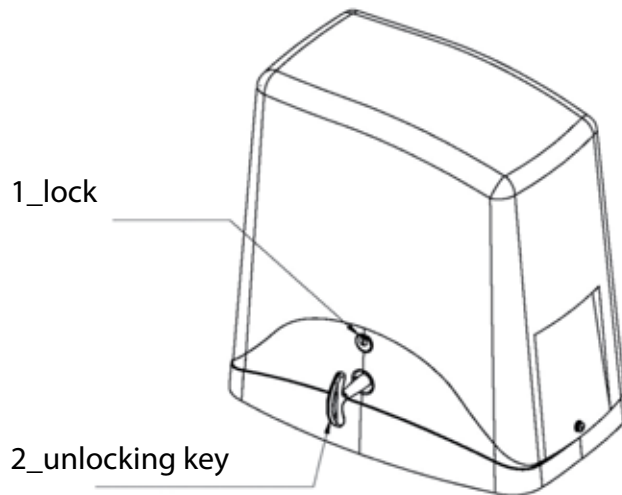

fig.3
1. Insert the key in position 1 lock and rotate 90° counter-clockwise (fig. 3)
2. Insert the unlock key in position 2 and rotate clockwise until complete unlock of the pinion (fig. 3).
For the correct installation of the ratchet unlock the reduction gear as shown in (fig. 3) and bring the gate to complete aperture.